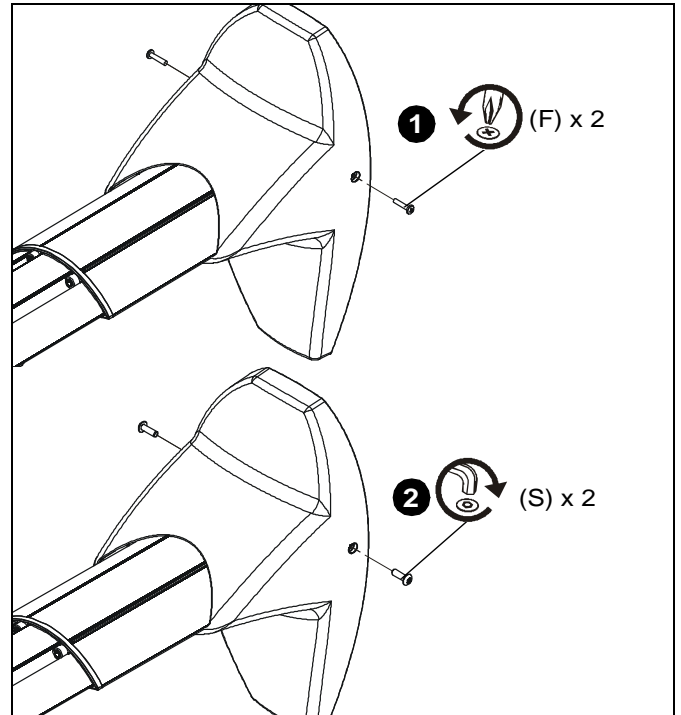

Figure 28
- Remove two #8-32 x 3/4" Phillips pan machine screws (F). (See Figure 28)
- Install two #8-32 x 3/4" button head security screws (S) into holes in mount cover. (See Figure 28)